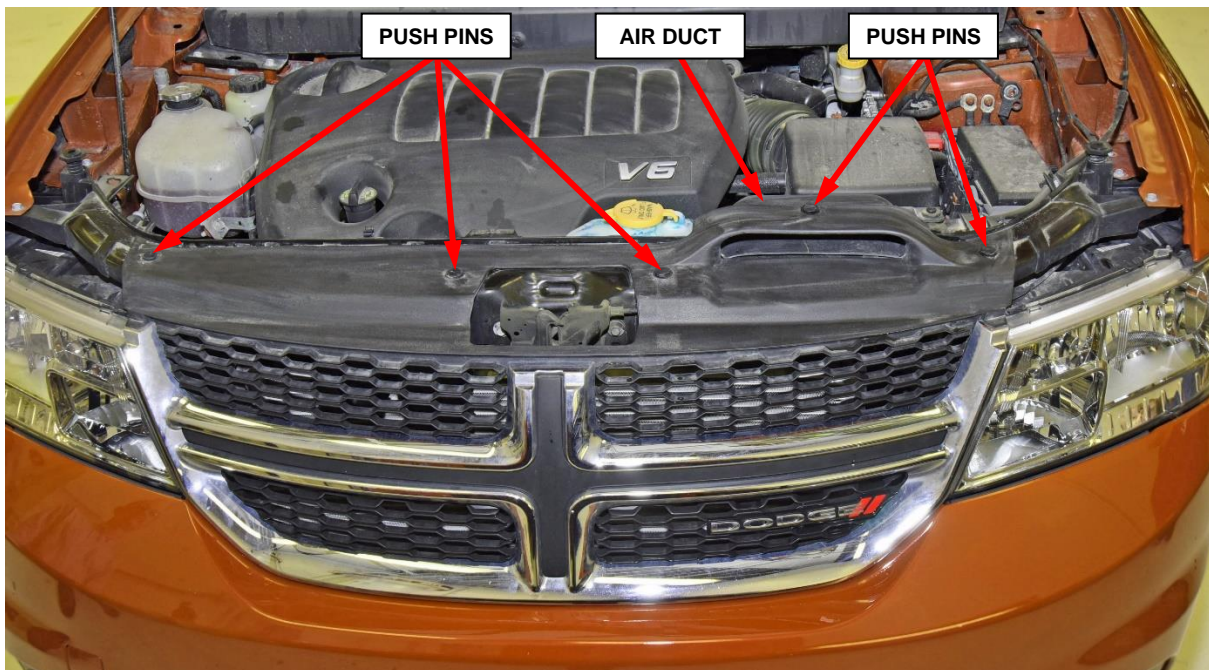

Figure 2 – Grill Push Pins
3. Remove the five push pins to release the grill from the air duct and the radiator support (Figure 2).
32. Install the five push pins to secure the grill to the air duct and the radiator support (Figure 2).